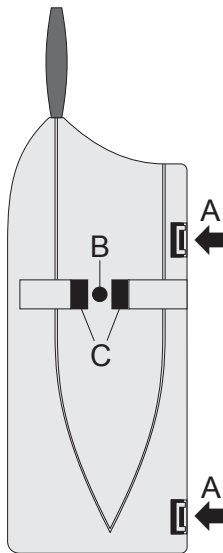

Figure 1
- Open the casing; the two casing halves are secured by two catches ('A' in figure 1 below).